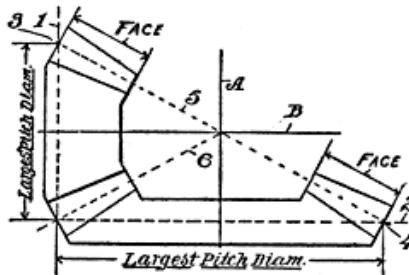

Fig. 124. Miter Gears. ToList
DRAWING GEARS.—Draw two lines at right angles, Fig. 124, as 1 and 2, marking off the sizes of the two wheels at the points 3, 4. Then draw a vertical line (A) midway between the marks of the line 2, and this will be the center of the main pinion.